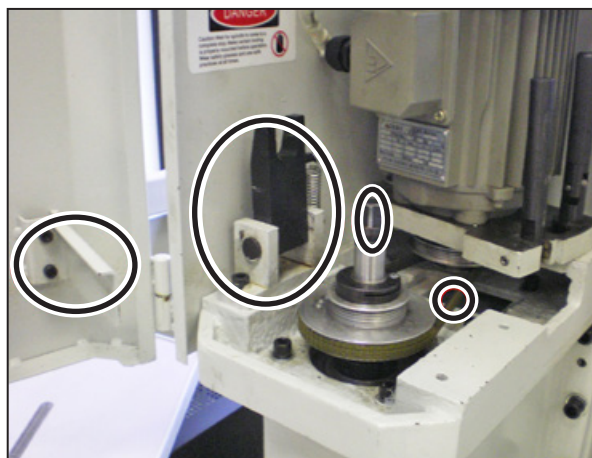

Figure 4
2. Open the spindle door and remove the following (see **Figure 4**):